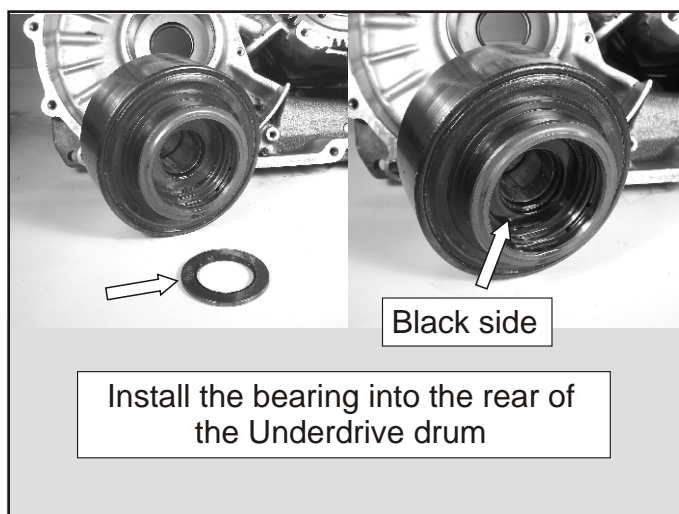

Figure 257
- 185. Install the bearing into the rear of the C3 underdrive drum with the black side facing out. See Figure 257.